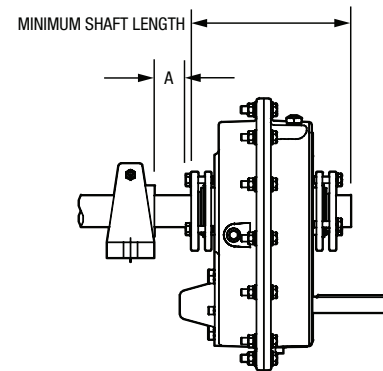

Figure 6 - Minimum Recommended Dimensions
1. One bushing assembly is required to mount the reducer on the driven shaft. An assembly consists of two tapered bushings, bushing screws and washers, two bushing backup plates and retaining rings, and necessary shaft key or keys. The driven shaft must extend through the full length of the reducer. If the driven shaft does not extend through the reducer do not use the standard tapered bushings; instead use the short shaft bushings as described in the Short Shaft Bushings section that follows. The minimum shaft length, as measured from the end of the shaft to the outer edge of the bushing flange (Figure 6), is given in Table 2.
1. One bushing assembly is required to mount the reducer on the driven shaft. An assembly consists of one long tapered bushing, one short tapered bushing, one tapered bushing wedge, bushing screws and washers, two bushing backup plates and retaining rings, and necessary shaft key or keys. The driven shaft does not need to extend through the reducer for the short shaft bushing to operate properly. The minimum shaft length, as measured from the end of the shaft to the outer edge of the bushing flange (see Figure 6), is given in Table 1.